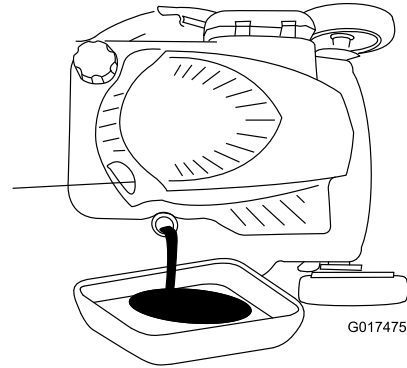

Figure 31
3. Tip the machine onto its side, with the dipstick down, to drain the used oil out through the oil-fill tube (Figure 31).